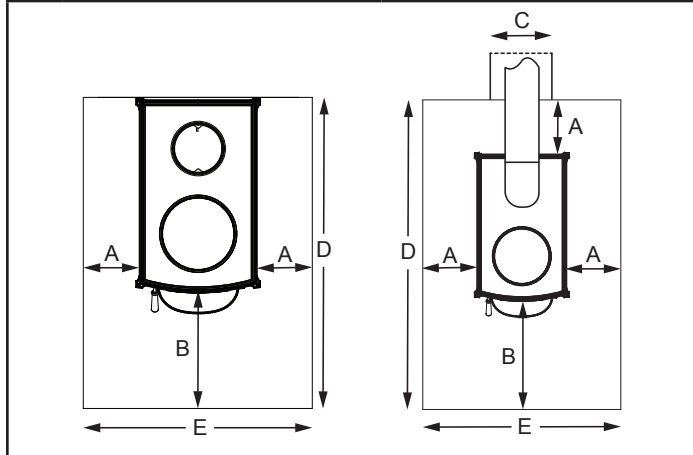

Figure 3.4 - These dimensions are minimum requirements only. Use greater dimensions whenever possible.
U.S. Installations: The floor protector is required under the stove and must extend at least 16" from the front of the stove (B, Figure 3.4), and at least 6" from the sides (A, Figure 3.4) and 0" to the rear. It must also extend under the chimney connector and 2" to either side. (C, Figure 3.4)
In Canada: A noncombustible floor protector is required under the heater. The floor protector must extend 18" (457 mm) to the front (B, Figure 3.4) and 9" (229 mm) from the sides and rear. (A, Figure 3.4)